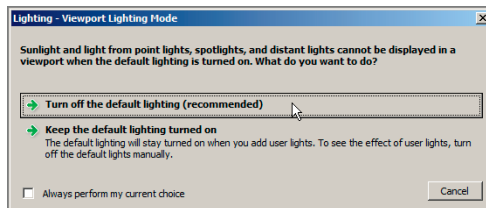

FIGURE 18.7 Turning off default lighting when adding the first artificial light source
6. Select Turn Off The Default Lighting when the Lighting – Viewport Lighting Mode dialog box appears (see Figure 18.7).